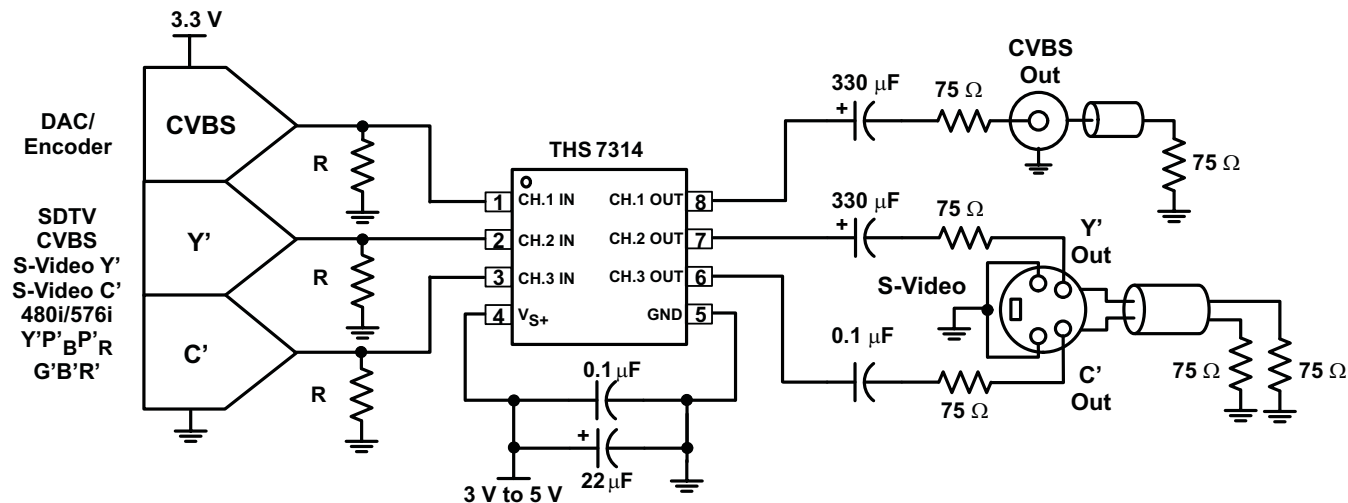

Figure 29. Typical SDTV CVBS/Y'/C' Inputs From DC-Coupled Encoder/DAC With AC-Coupled Line Driving
A typical application circuit using the THS7314 as a video buffer is shown in Figure 29. It shows a DAC (or encoder such as the THS8200) driving the three input channels of the THS7314. Although the S-Video Y'C' channels and the Composite video channel of a Standard Definition video (SD) system are shown, these channels can easily be the Y'P'B'P'R' (sometimes labeled Y'U'V' or incorrectly labeled Y'C'B'C'R') signals of a 480i or 576i system. These signals can also be G'B'R' (R'G'B') signals or other variations.